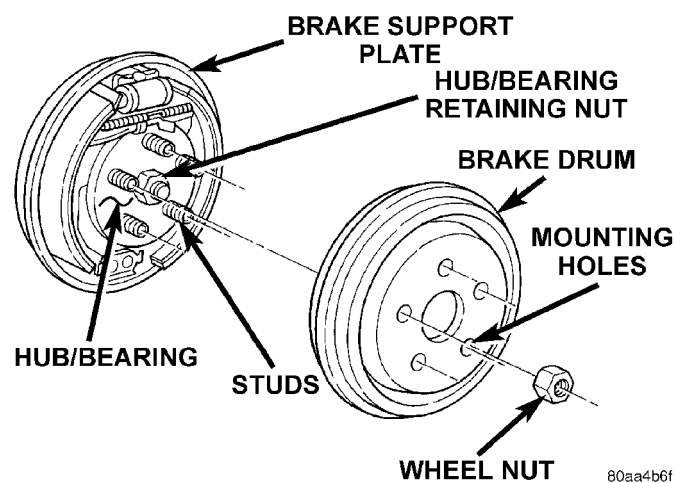

Fig. 80 Brake Drum Remove/Install
(4) Remove the brake drum from the hub/bearing (Fig. 80).